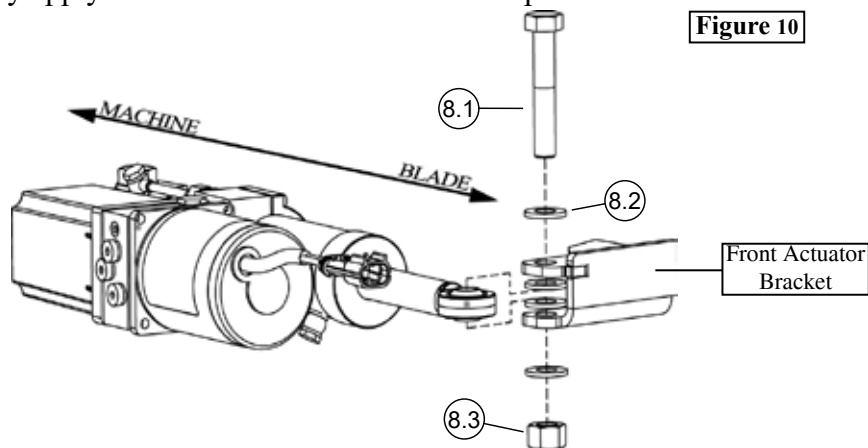
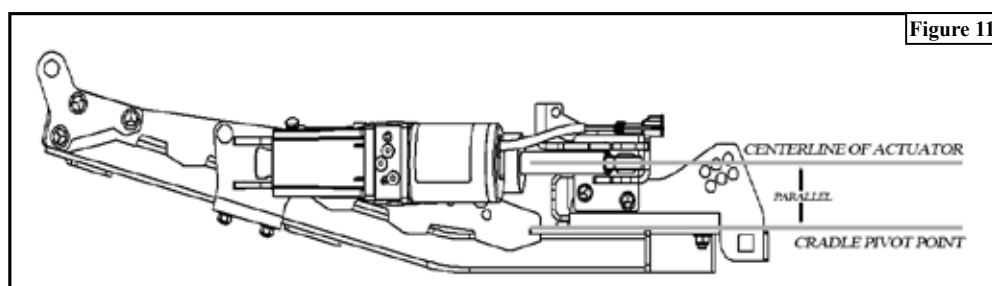

Figure 10
Figure 11
2. Repeat previous step for mounting the front half of the actuator, as shown in Figure 10. It is most important that you use the washers to make sure that the actuator is parallel to the cradle swivel point, as shown in Figure 11. Both front, and rear bolts should not be tight, thread the nut on until Nylock is engaged.
- **Wide Winch:** assemble roller fairlead or hawse per **Figure 10**.